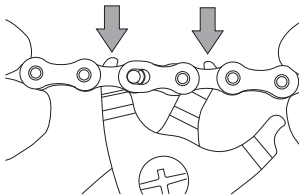

Fig.10
- Insert the false link opening tool with teeth less than 1.8 mm thick into the inner links adjacent to the C-Link™ (Fig. 10).